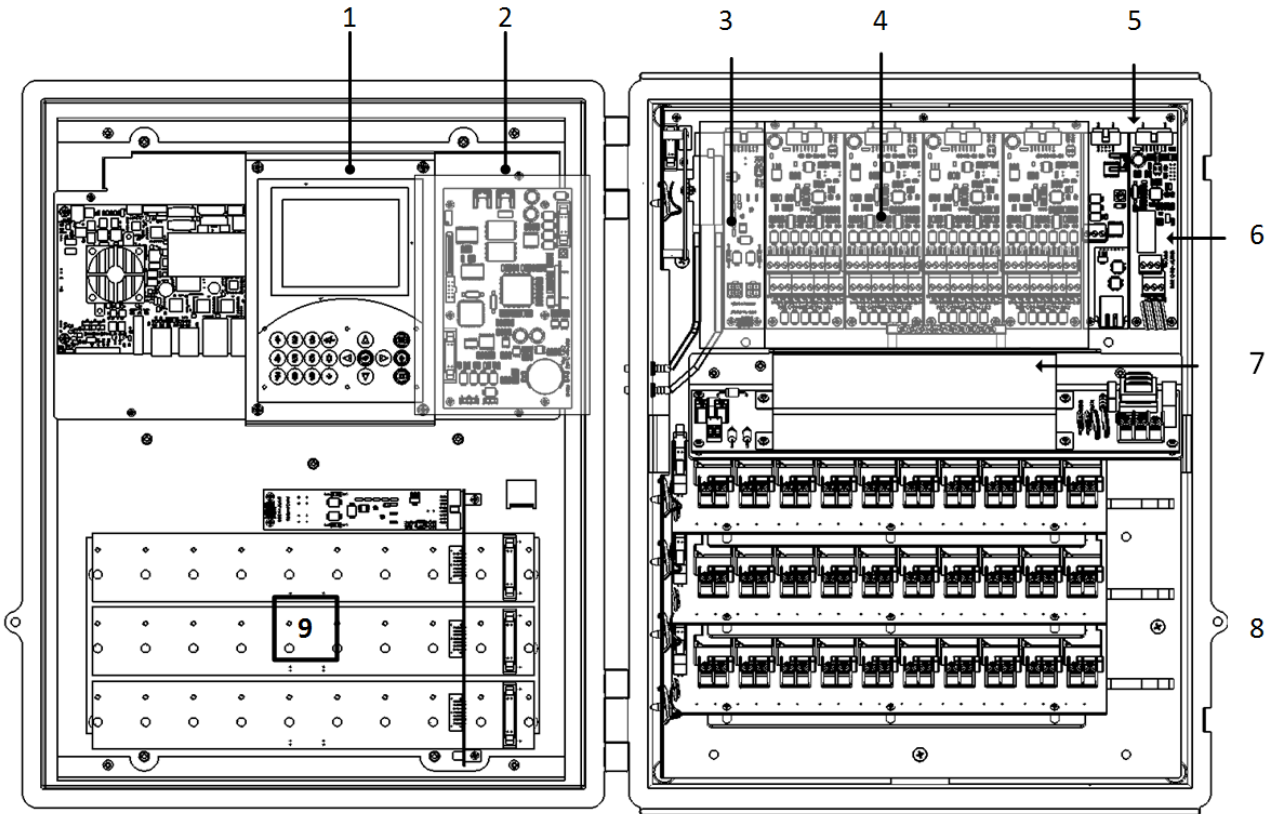
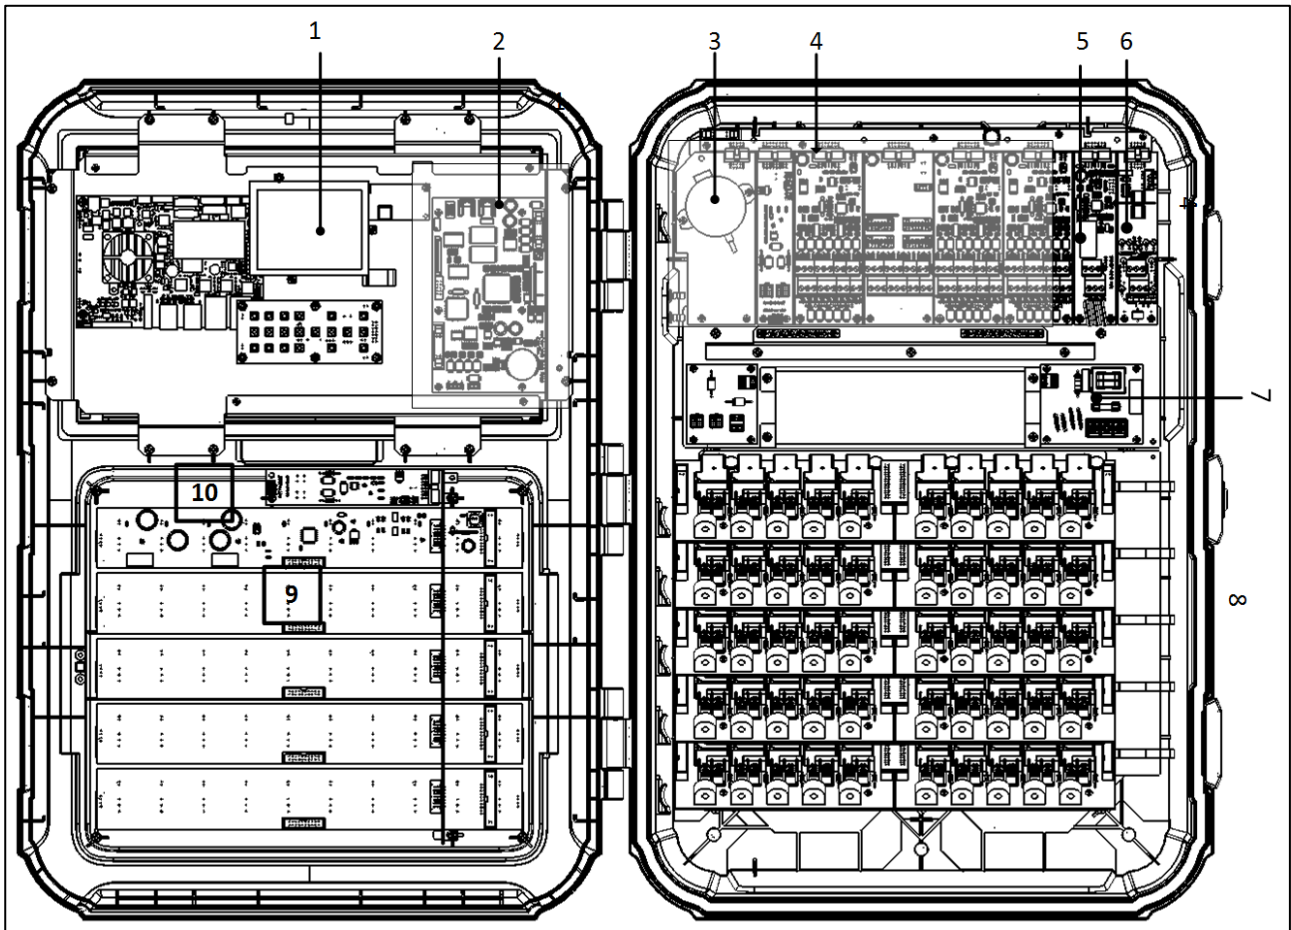

Figure 1: Platinum Pro Layout
Figure 2: Pro / One Layout
Figure 1 key
Figure 2 key
*NOTE* Figure 1 and Figure 2 are example layouts. Each installation can differ.